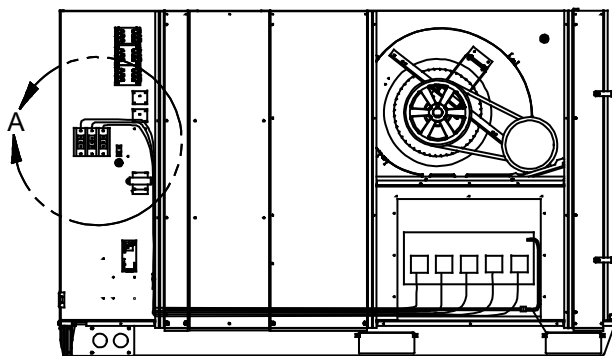

Figure 4
7. Route the EHK yellow, black and red wires through the hole in the blower deck and into the control box as shown in Figure 4.
8. Connect EHK wires to the single point wire kit as shown in Figure 4.